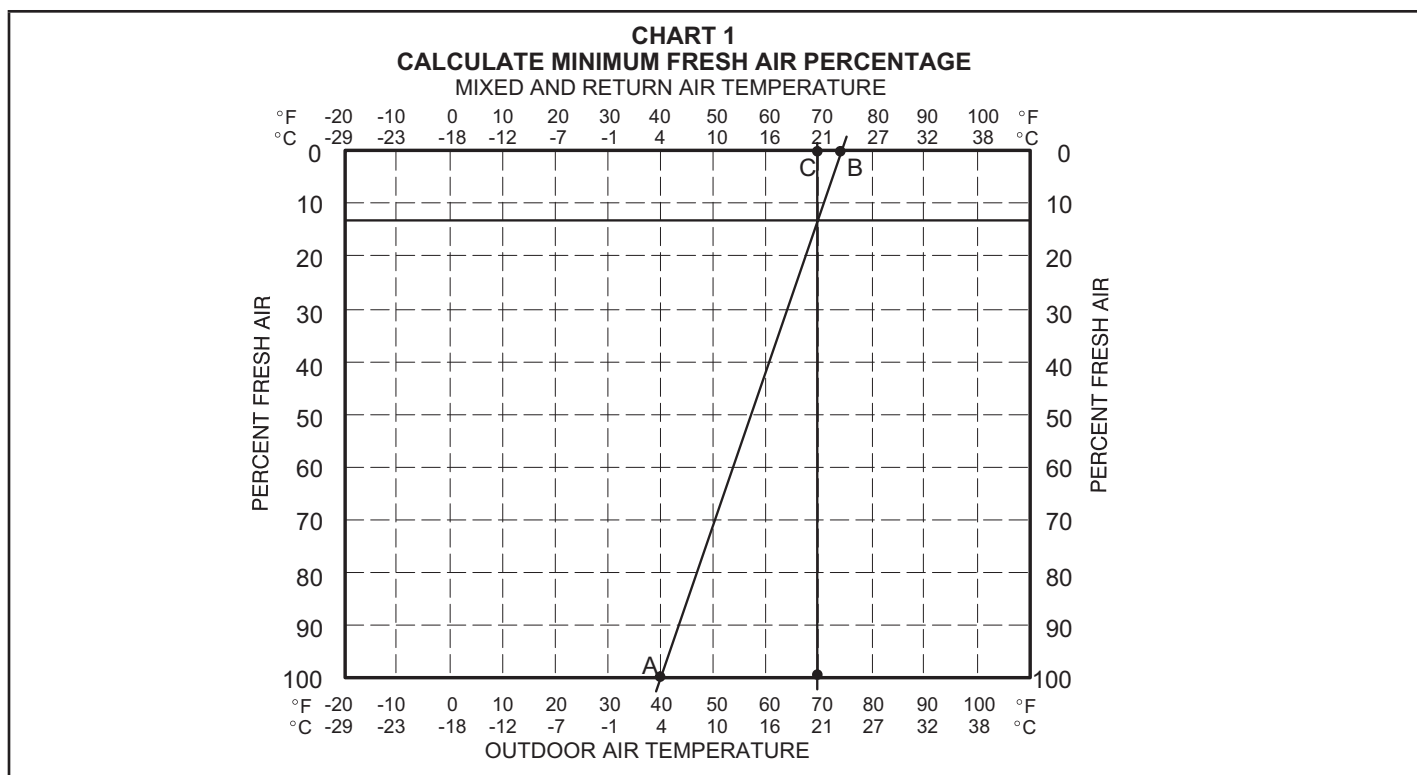

FIGURE 25
- 4 - Measure return air temperature. Mark that point on the top line of chart 1 (FIGURE 25) and label the point "B" (74F, 23C shown).